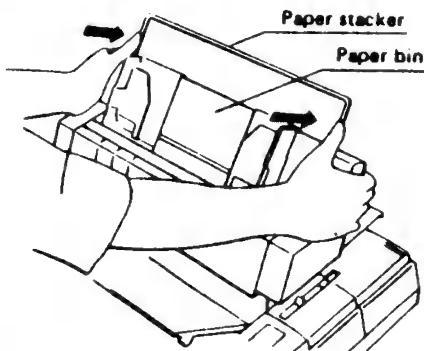

Figure C-10 Closing the Paper Bin
5. Close the paper bin by pushing the Paper Stacker and clamp as shown in Figure C-10.